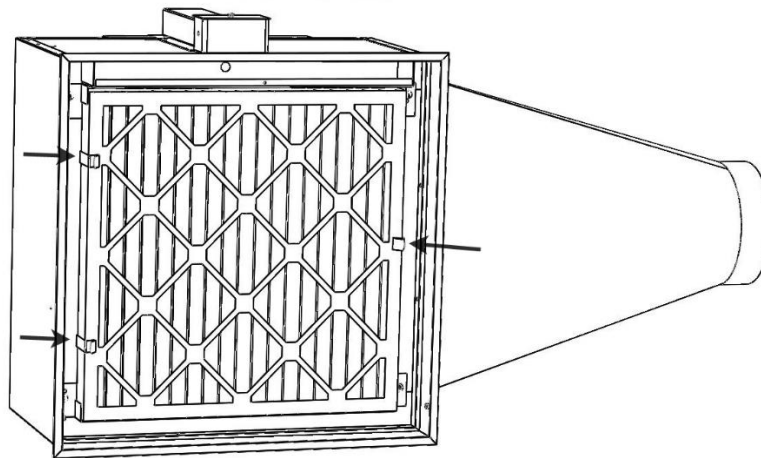

Figure 4. Secure the filter back in place with the three filter clips. Make sure they are all fully pushed in
- h. Put the filter back in place and secure it with the three filter clips (Figure 4). The single clip is harder to push and must "bite" into the filter cardboard to ensure an airtight filter installation.